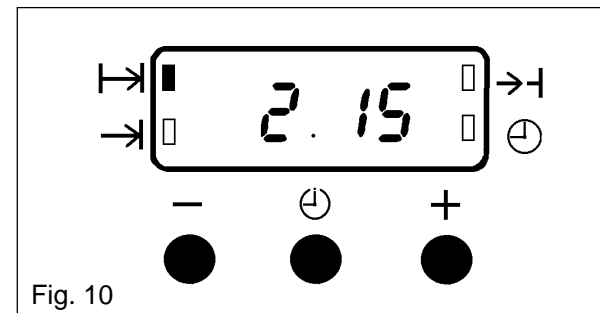

Fig. 10
- iii) To set the length of cooking time, press the Selector Control button until the 'Cook Time' (→) indicator is illuminated. Press the increase control ( + ) until the required length of cooking time is displayed, e.g. 2 hrs 15 mins as Fig. 10. Depress the decrease control ( - ) if necessary.